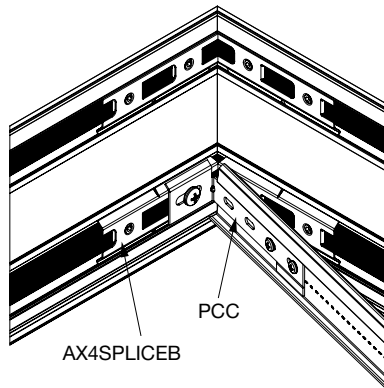

Fig 11
3.2 Axiom® Perimeter Corner Clips (PCC) (Fig 11)